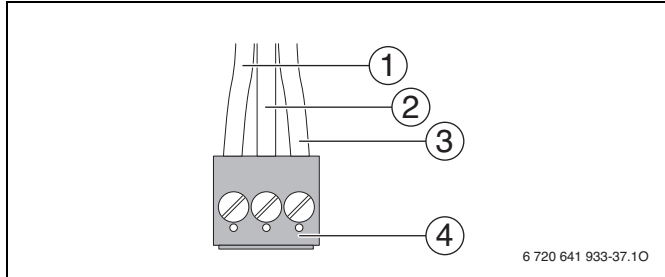

Fig. 47 Attach plug (external DHW tank loading pump or 3-way valve)
- ▶ Connect cable to **the red plug** according to Fig. 47.